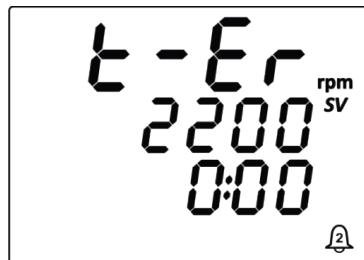

Figure 10 - Emergency stop because of overheat
- 8.4.4. If overheat warning is ignored and operation is continued, then after some time there will be emergency stop of the device with sounding audible alarm and showing the fault message on the display (Figure 10). Turn the device using power switch, wait until the motor cools off naturally, then turn on power supply again.